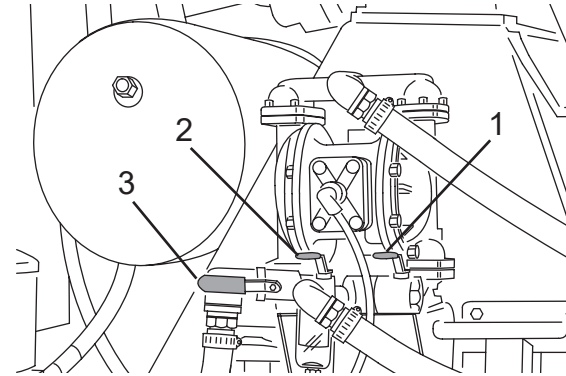

Figure 109
2. Close the purge valve (Figure 109, Item 1) at the pump inlet.
3. Open the main tank ball valve (Figure 109, Item 2) or chemical tank ball valve (Figure 109, Item 3) (if equipped) for the desired tank/water source.